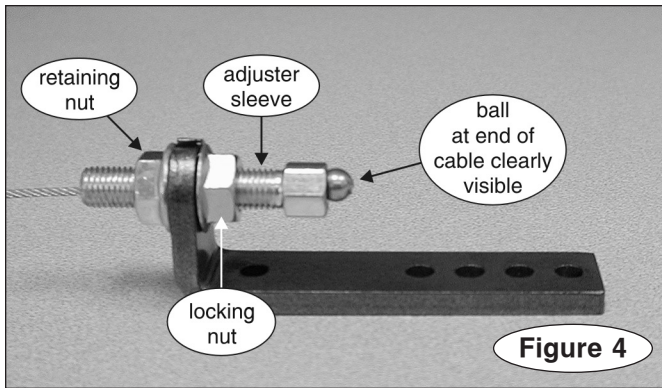

Figure 4
2. Attach the adjuster sleeve to the brake pedal clamp – completely unthread the retaining nut (Figure 4) and insert the adjuster sleeve through the hole in the L-shaped bracket.
If you do not have 1/4" of free play, adjust the cable by moving the retaining nut and locking nut (Figure 4) forward or backward on the adjuster sleeve. This will remove or gain up to 1/2" of slack in the cable.